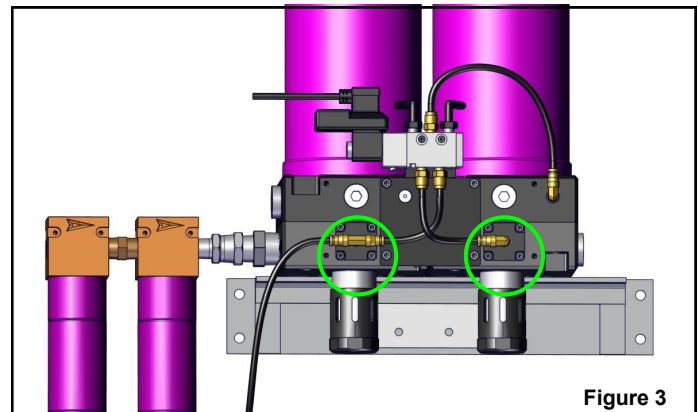

Figure 3
3. Disconnect tubing from quick-connect fitting located on piston cover. Push in on brass ring. While holding ring in, pull out tubing. Figure 3
13. Reconnect tubing to quick-connect fitting located on piston cover. Figure 3